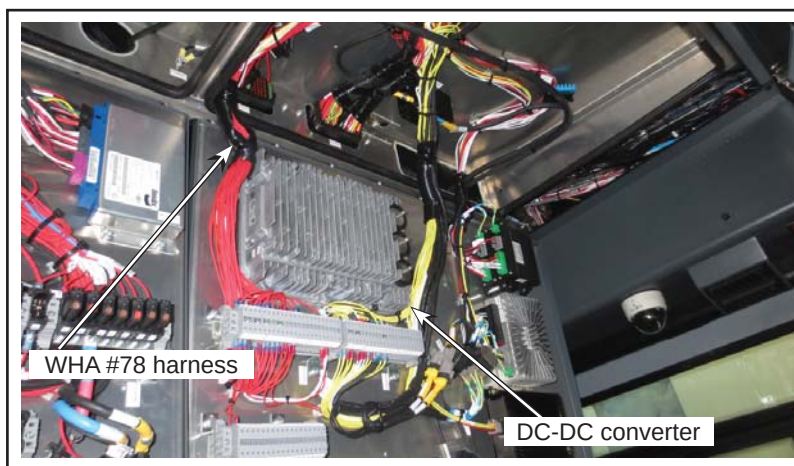

Figure 5 - WHA #78 Wire Harness Location
- 1.16. Locate the WHA #78 wire harness. See Figure 5.